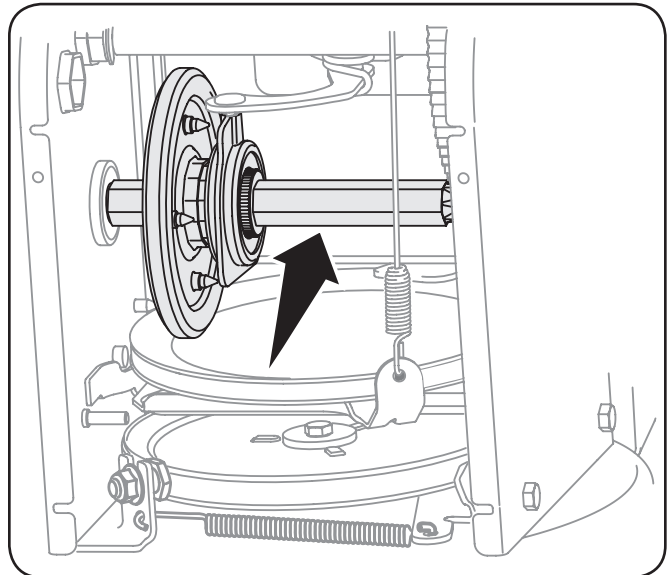

Figure 6-6
4. Apply a light coating of Regular Grade Anti-Seize to the hex shaft. See Figure 6-6.
2. Pull out the chute control rod until the hole in it lines up with the hole furthest from the chute assembly on the chute rotation assembly. See Figure 6-6.
3. Reinsert the cotter pin through this hole and the chute control rod. See Figure 6-6.